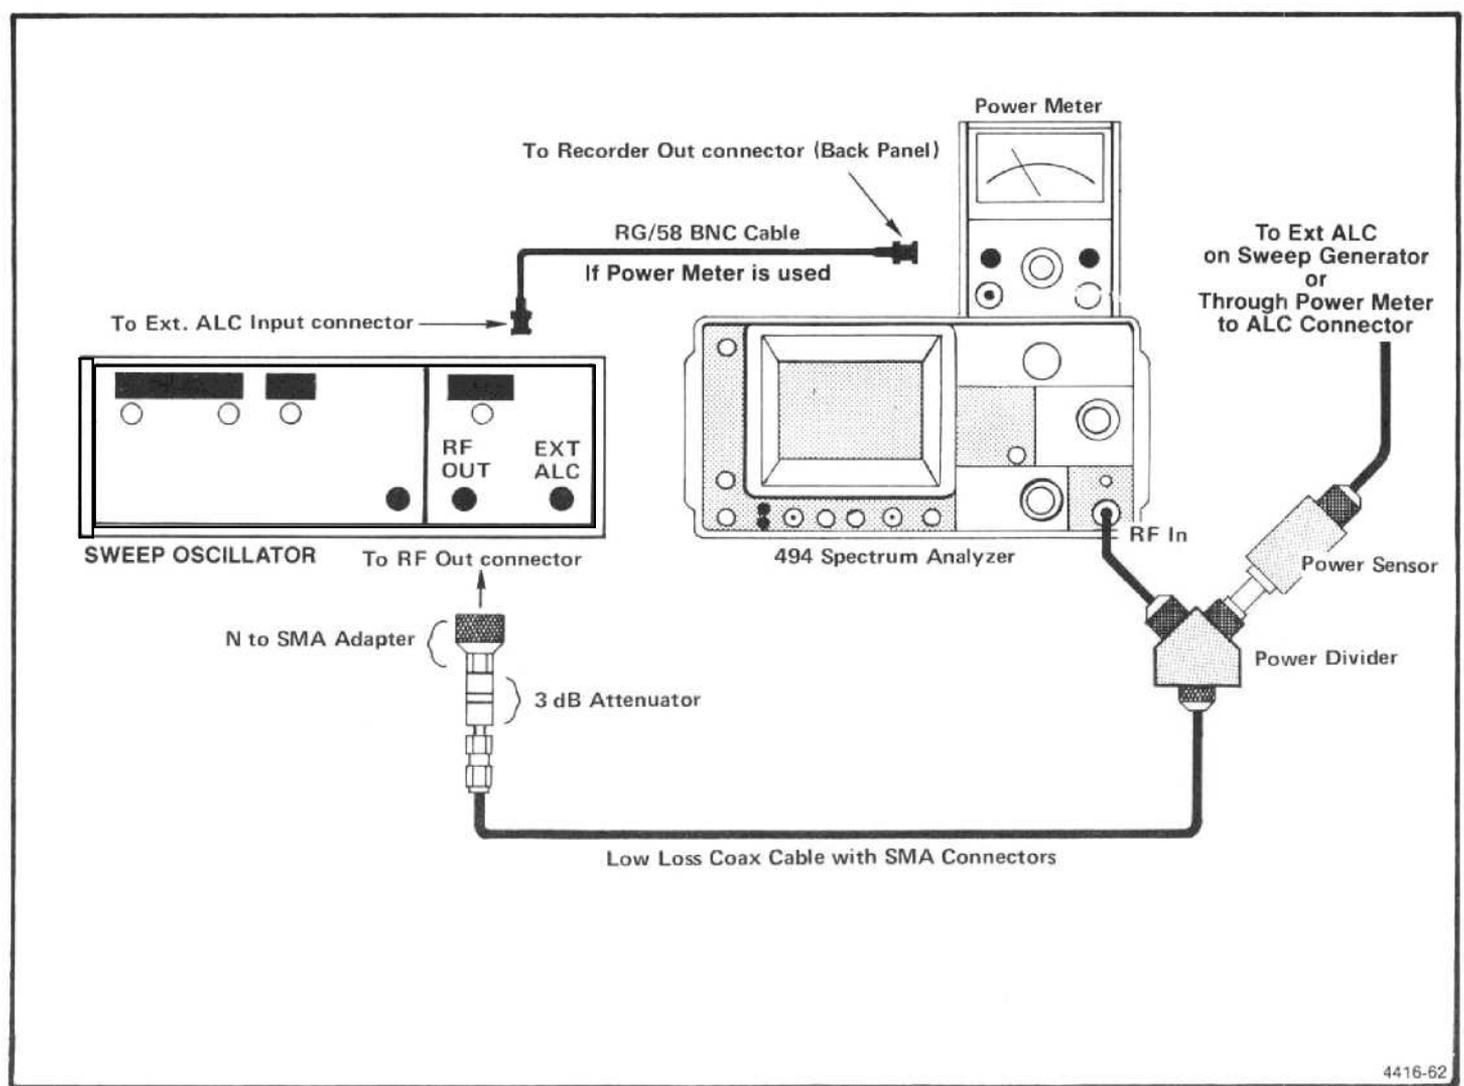

Figure 5-27. Test equipment setup for adjusting baseline leveling.
a. Test equipment setup is shown in Figure 5-27. The output of the sweep generator is applied through a 3 dB attenuator and high performance coaxial cable to a power divider. Connect one output of the power divider directly to the RF INPUT of the 494/494P and the other to the sensor for the power meter. Set the RF plug-in ALC switch to MTR position and connect a coaxial cable between Recorder Output of the power meter and the Ext ALC Input of the plug-in unit on the sweeper. Set the Power Level to approximately -10 dBm then adjust the Gain on the unit for stable operation (output stops oscillating).
c. Apply the output of the sweep oscillator to the RF INPUT, as shown in Figure 5-27. Set the sweep oscillator to the Automatic Internal Sweep (Marker Sweep), sweep time to 100 s, and set it so the oscillator sweeps from 10 MHz to 1.8 GHz.